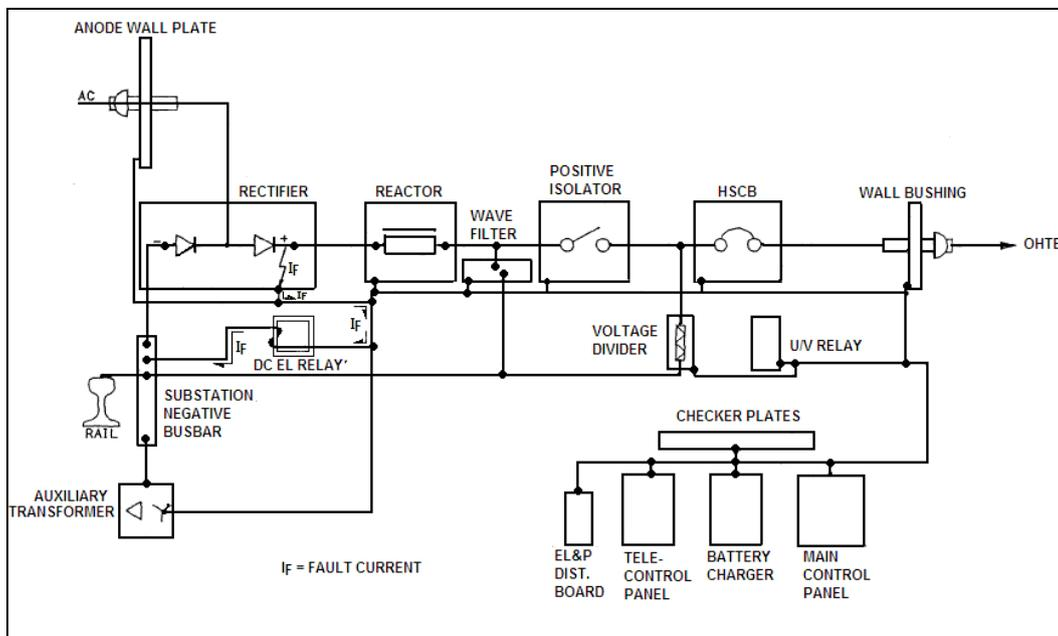

Figure 9.1
- 4 The equipment connected to the DC earth Leakage busbar system is shown in Figure 9.1 below: